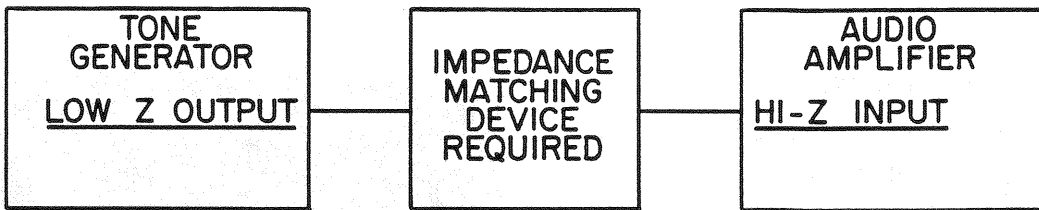
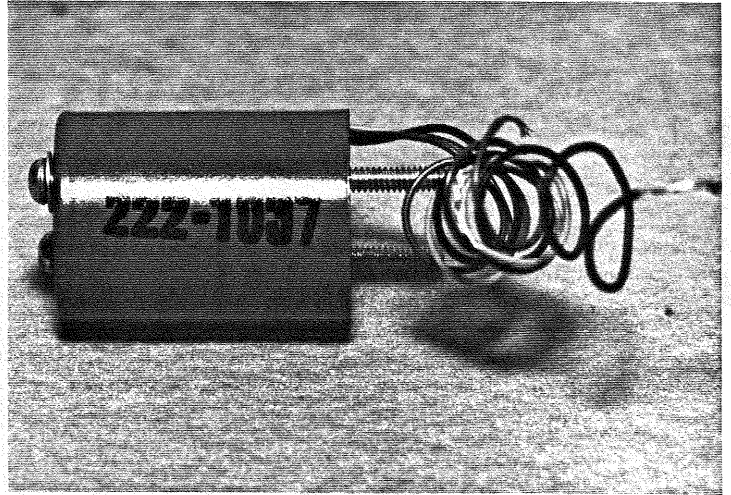

FIG. 108
FIG. 109
- b. The output impedance of a generator is very low, but the amplifier impedance is high. Therefore, some type of impedance matching device is necessary. Some generators use an impedance matching transformer like the UTC Ouncer, W1713 (Fig. 108). In later years we made our own replacement for the W1713, which is Part Number 222-1037 (Fig. 109).